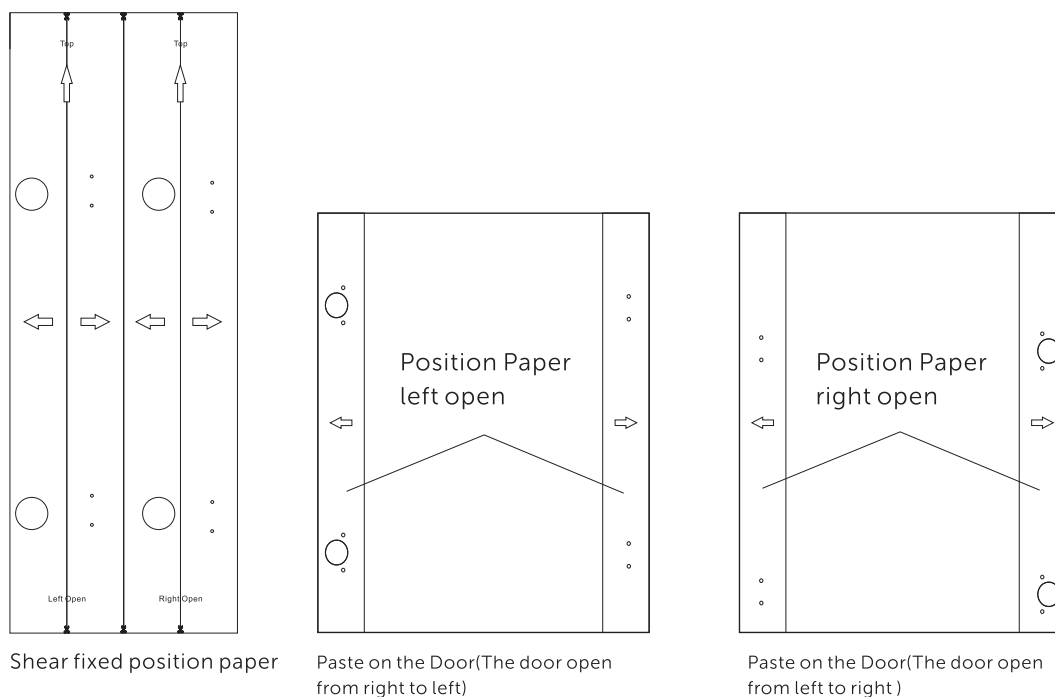

Fig 11
2.Fixed position paper on the door.(Fig 11)